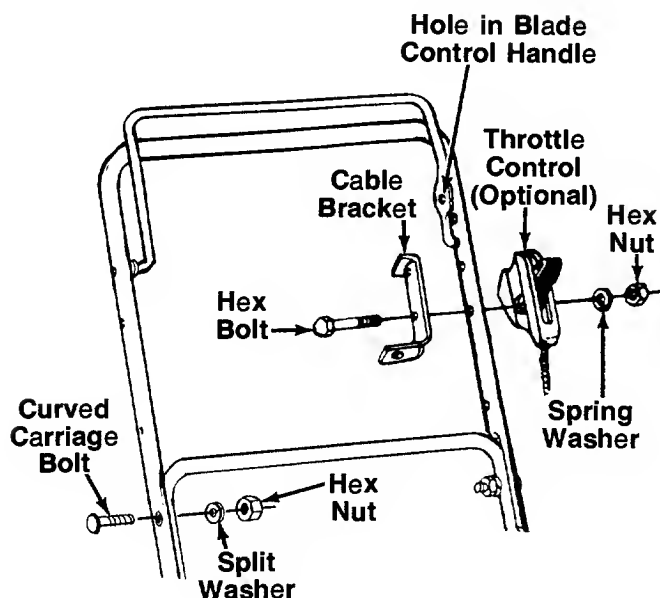

FIGURE 2.
2. Secure the upper handle to the lower handle using the curved head bolts, split washers and hex nuts as shown in figure 2.
If your mower is equipped with a remote throttle control, it is already attached to the engine. Attach the cable bracket and throttle control to the left side of upper handle as follows. See figure 2.